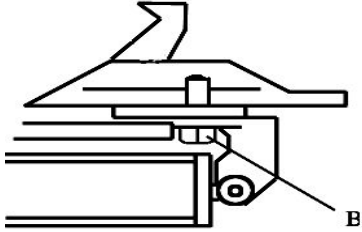

Fig 27
Note: After the first 20 days of use, retighten the jaws with tightening screws (B) on the Turntable (Fig 27)